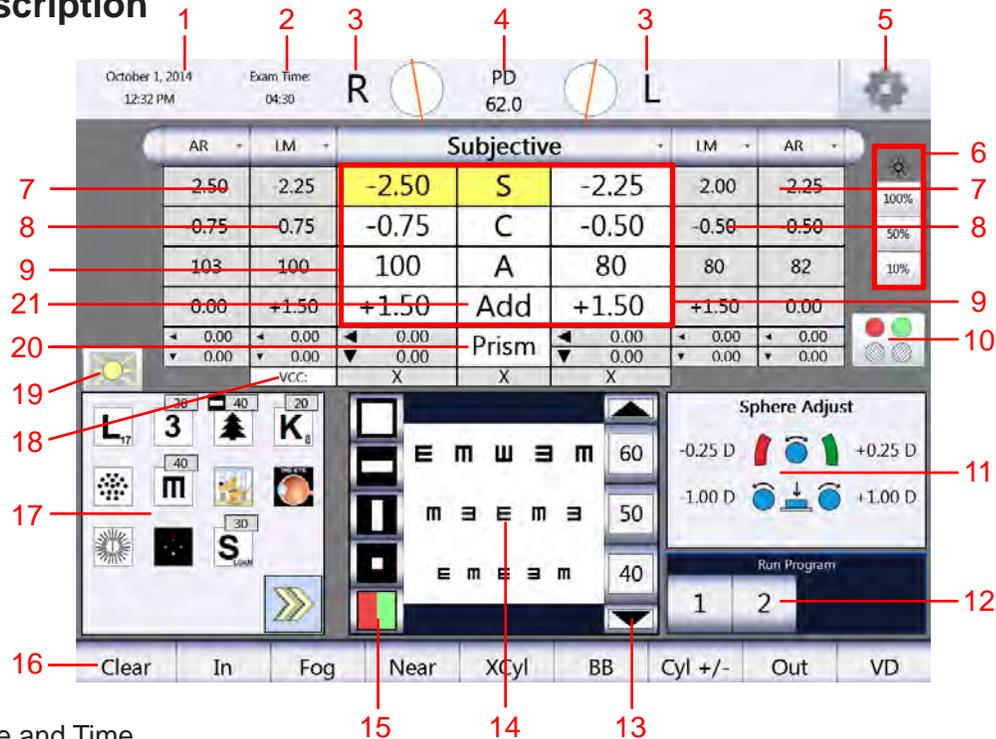

Figure IS-22, Display Screen
1. Touch **RED/GREEN/POLARIZED Lens Filters**, located on the right side of the screen, just below the illumination adjustment icons, to access the auxiliary lenses and filters. (Please refer to Figure IS-22, #10.)